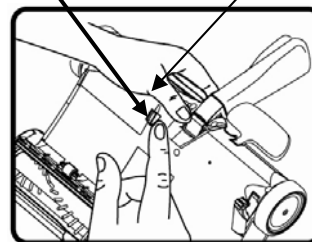

Fig. 3
3. Push in locking tab and lift off battery compartment cover. (Fig. 3 & 4)